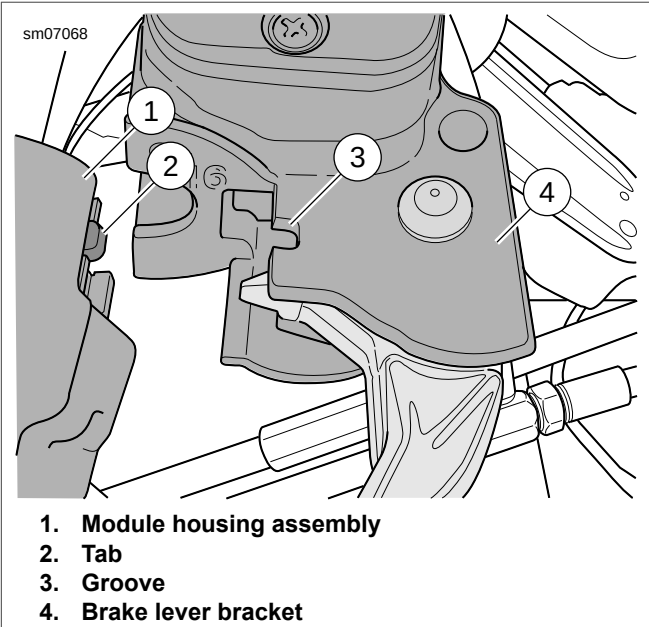

Figure 7-113. Module Housing Alignment
9. See Figure 7-113. Position the brake lever/master cylinder assembly inboard of the switch housing assembly, engaging the tab (2) on the lower switch housing in the groove (3) at the top of the brake lever bracket.